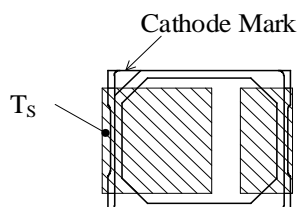

Figure 1.  $T_s$  Measurement Point
(2) Solder point temperature,  $T_s$ , is defined by land pattern of cathode side (see Figure 1).